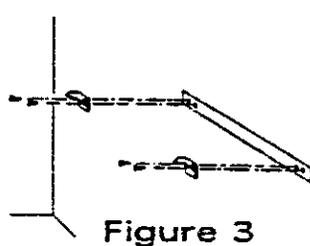
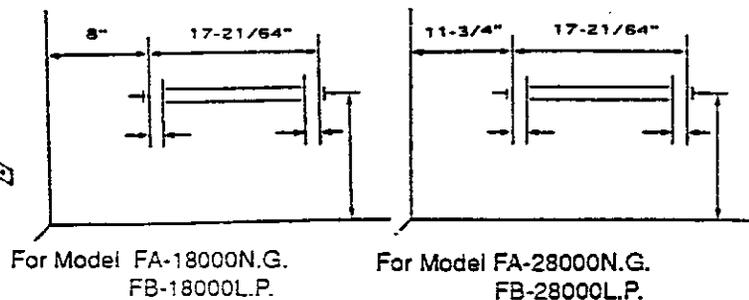

Figure 3
Figure 4
1. Install mounting brackets on wall as shown in Figure 3 use enclosed "paper template" for proper location of hole see Figure 4. (It may be necessary to use plastic or lead anchors for plaster walls).